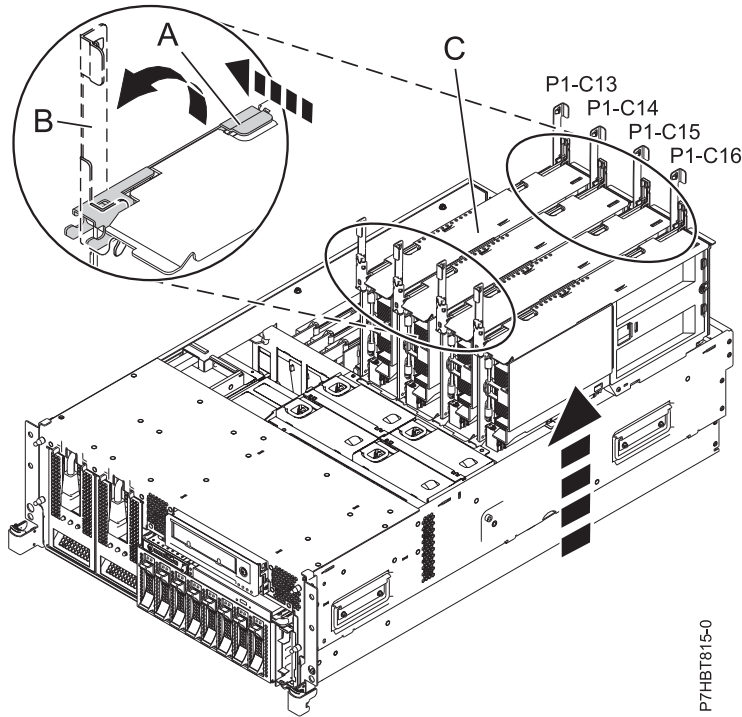

Figure 80. Removing system processor assembly from the backplane assembly in a rack-mounted system
8. As shown in Figure 80 on page 174, unlock the latches (A) on the system processor assembly. Using both hands, grasp the unlocked latches (B) to pull the system processor assembly (C) through the guide rails away from the system backplane assembly.